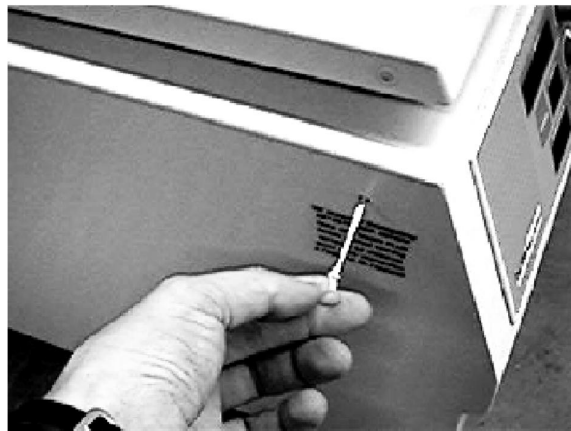

figure 4
- The lid can then be opened (see figure 4).